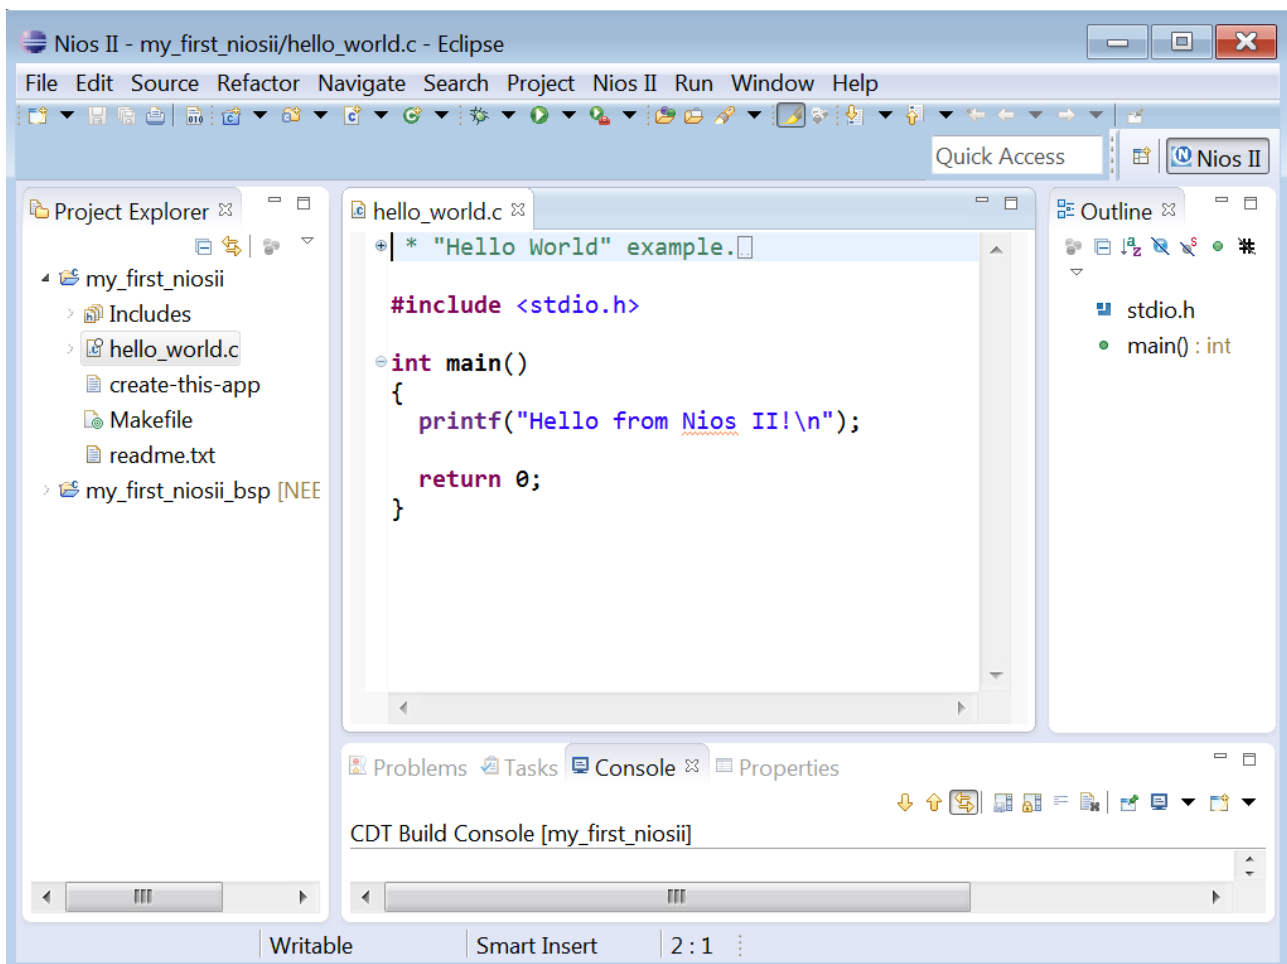

Figure 2-3 Project named my_first_niosii is created
5. Click **Finish** and the Nios II SBT for Eclipse will create a project named **my_first_niosii**, as shown in **Figure 2-3**.